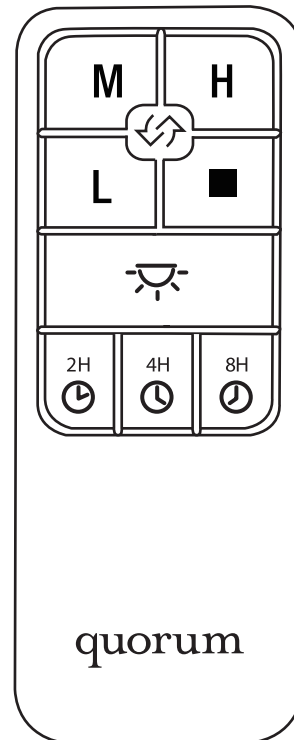

Fig. 5
A. H, M and L buttons: (Fig. 5)